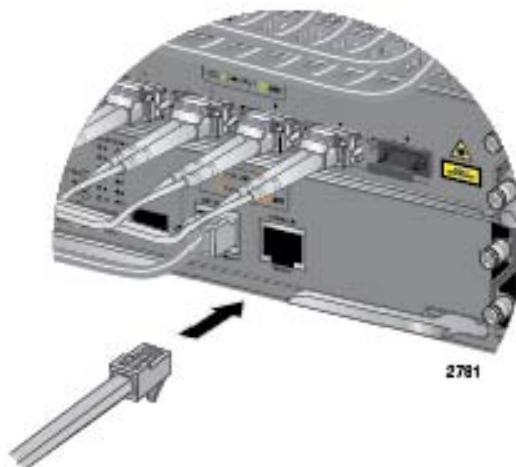

Figure 143. Connecting the Management Cable to the Console RS-232 Port
1. Connect the RJ-45 end of the management card included with the AT-SBx31CFC Controller Fabric Card to the Console RS-232 port on the front panel of the AT-SBx31CFC Card, as shown in Figure 143. If the chassis has two controller cards, you must connect the cable to the Console RS-232 port on the active card. To determine which card is the active card, examine the M/S LEDs. The LEDs are green on the active card and amber on the standby card.